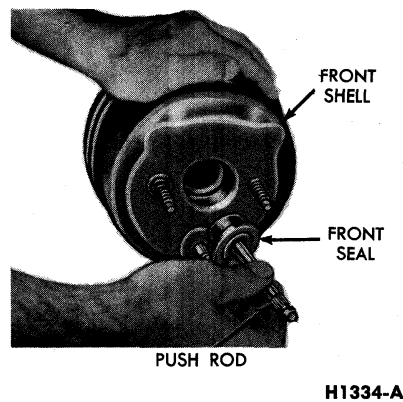

FIG. 16—Removing Front Seal and Push Rod
3. Pull the hydraulic push rod and front seal (Fig. 16) from the front shell.